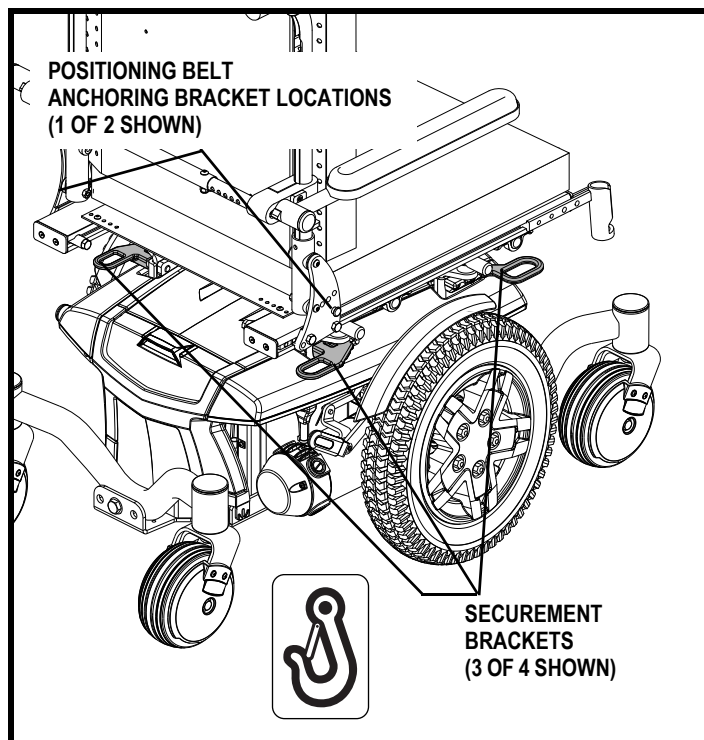

Figure 10. Transit System Securement Brackets (Synergy Seat Shown)
If your power chair is equipped with a transit securement system, it is equipped with manufacturer-installed front and rear securement brackets and positioning belt anchoring brackets. See figure 10. Refer to the supplement provided with your power chair for information on how to use the transit securement system.
- Attach the four tie-down straps only to designated, labeled transit securement points indicated by anchor symbols on the power chair. See figures 10 and 11. Tighten the straps to sufficiently remove all slack.